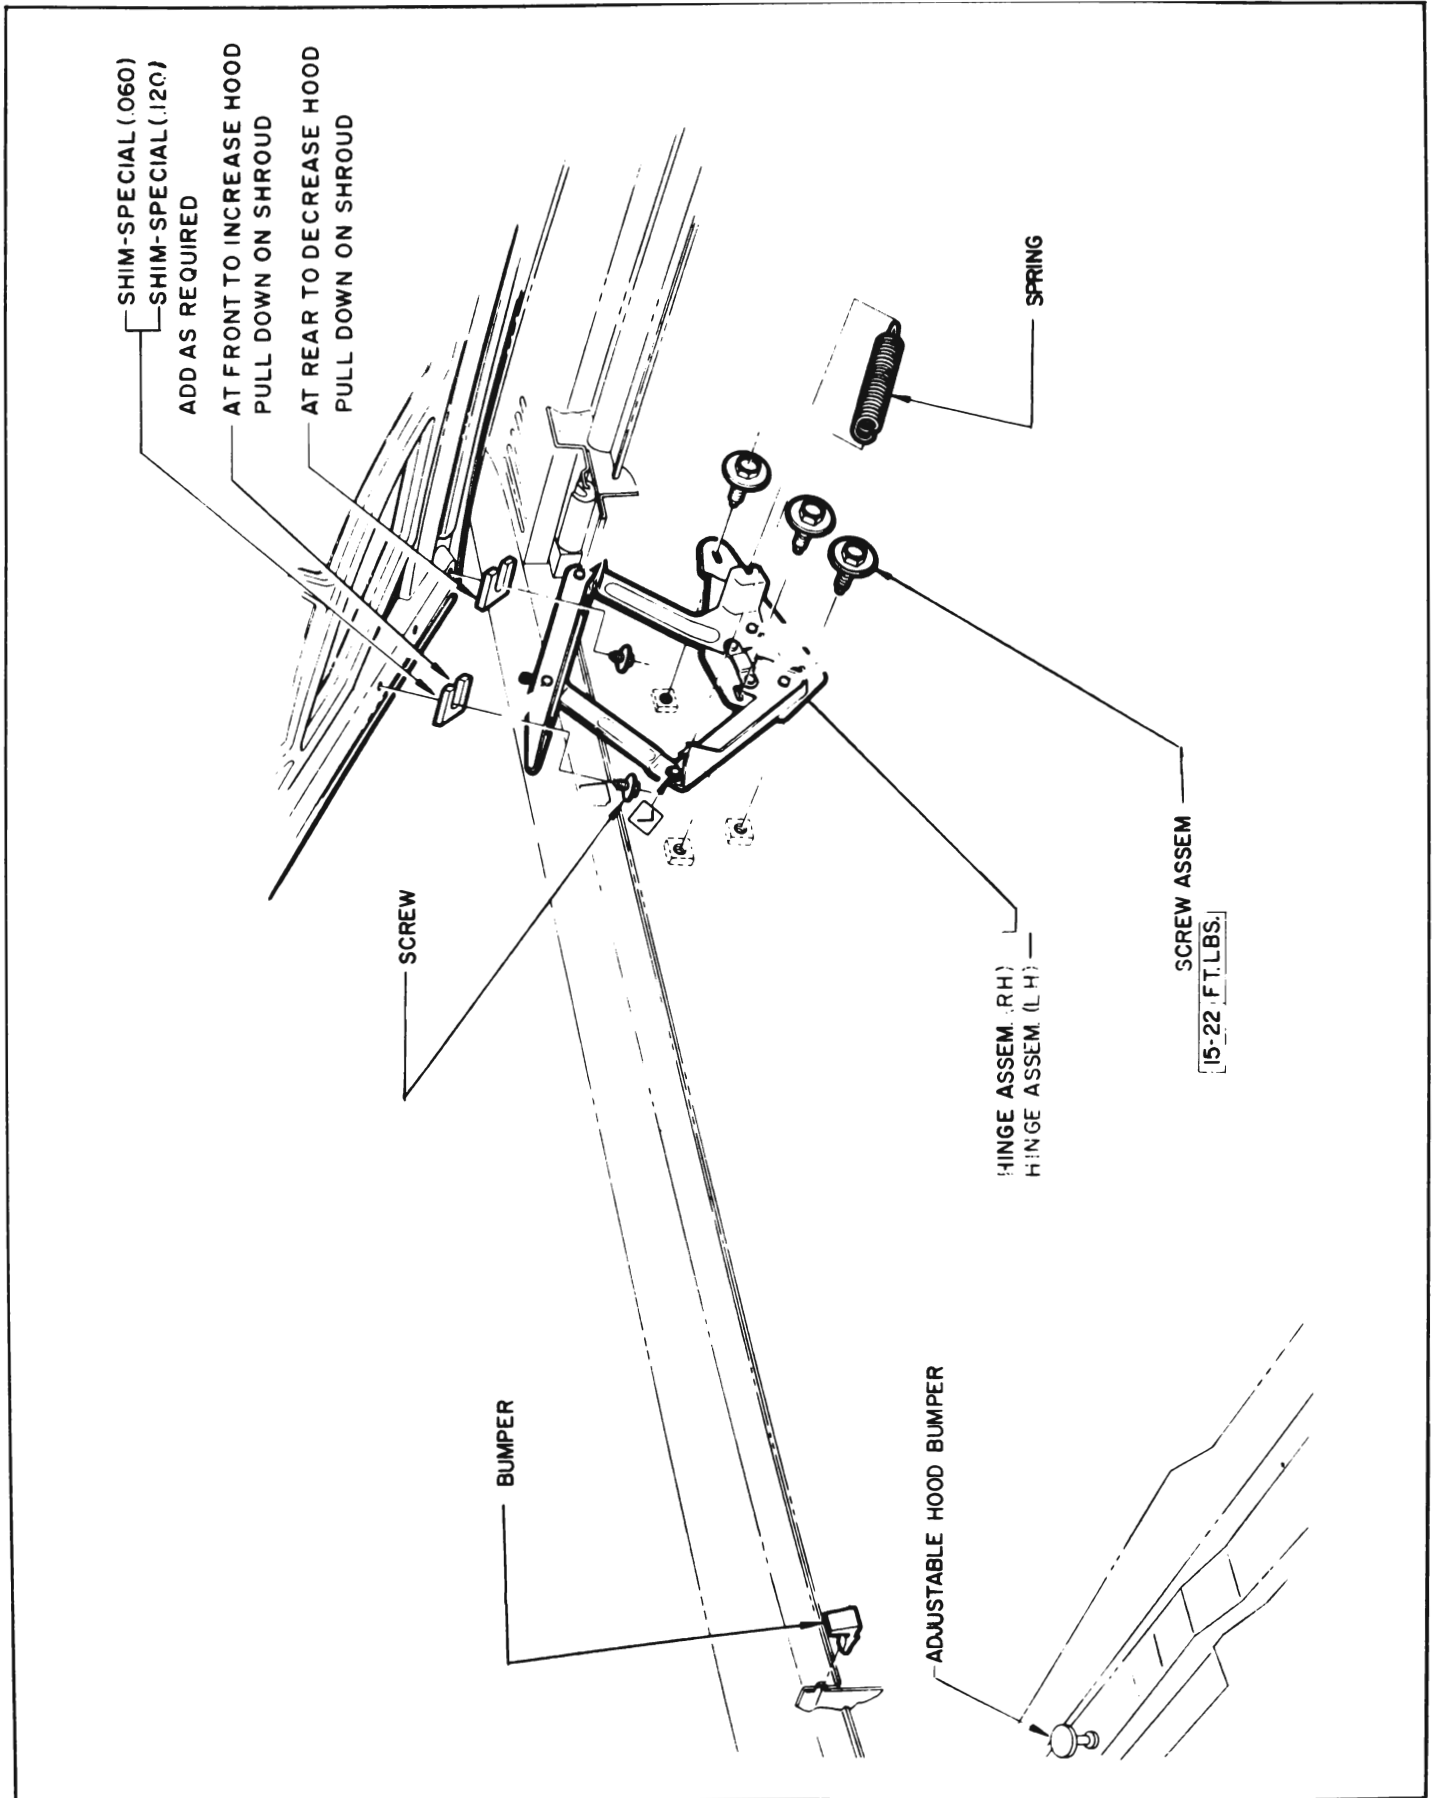

Figure 12-1—Hood Hinge Installation
3. Remove three hood hinge bolts as shown in Figure 12-1.
1. Rear Height. Rear hood height is determined by special washers between hinge and hood. Removing or adding washers will shift rear of hood up or down with respect to hinge. (See Figure 12-1).
2. Rear Tension. Too little tension is indicated if the rear hood area flutters. To increase tension, add special washers between the hood and the hinges at the front bolts. (See Figure 12-1.)
Too much tension is indicated if the rear area of the hood bends as it is closed. To decrease tension, add special washers between the hood and the hood hinges at the rear bolts. (See Figure 12-1.)
3. Front Height. This is determined by two adjustable bumpers. (See Figure 12-1.) However, the front of the hood may not contact these bumpers unless the hood latch is correctly adjusted as described in step "4".
3. Scribe position of the hinge attachment on wheelhouse. Remove the three bolts attaching the front of the hinge to the wheelhouse (fig. 12-1) and remove the hinge.
To prevent hood panel flutter, the rear end of the hood panel must have firm contact with the rubber bumpers and lacing attached to cowl ledge. The hood may be raised or lowered by adjustment at hinges. (See Figure 12-1.)